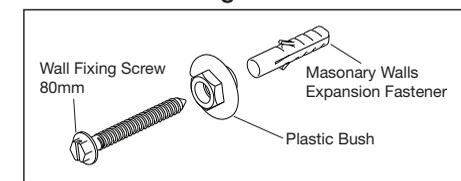

Fig. 4
- 5- Put plastic bush onto the D201 fixing screws and screw through basin into finished wall, as detailed in **Fig. 4**.